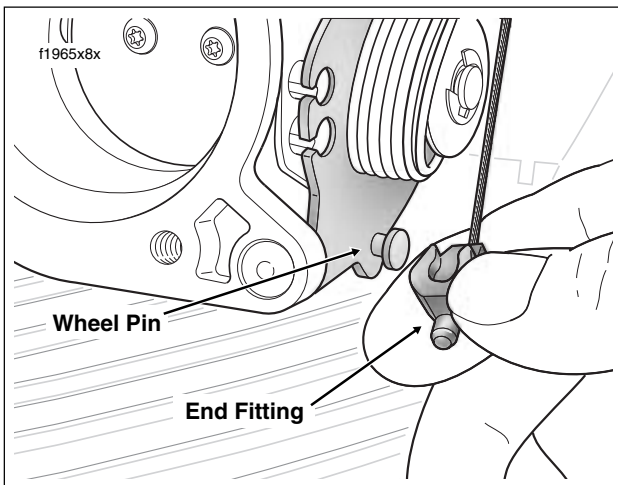

Figure 9-24. Remove End Fitting From Wheel Pin
5. On cruise control equipped models, remove E-clip from sleeve at end of cruise cable housing. Using slot, remove cable housing from cable guide in throttle cable bracket. Push the plastic end fitting on the cruise cable to the outboard side to release from wheel pin. See Figure 9-24.
2. Pull up on chrome sleeve of quick-connect fitting on left side of fuel tank and pull down on fuel supply line to disconnect. See Figure 9-24.